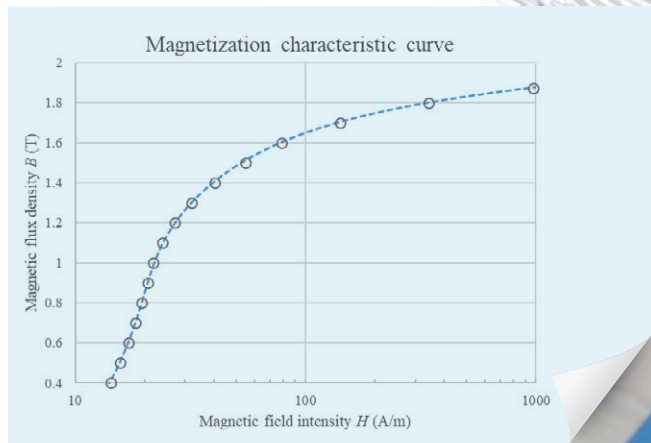

Figure 4. Magnetization characteristic curve of 0.18 mm thin-gauge grain-oriented silicon steel.
The magnetization characteristic curve reflects the magnetic flux density (B) as a function of magnetic field intensity (H), which corresponds to the magnetizability of grain-oriented silicon steel. Figure 4 shows the magnetization characteristic curve of the 0.18 mm thin-gauge grain-oriented silicon steel under direct-current conditions. When the magnetic flux density is 1.7 T, the required magnetic field intensity is 139 A/m.